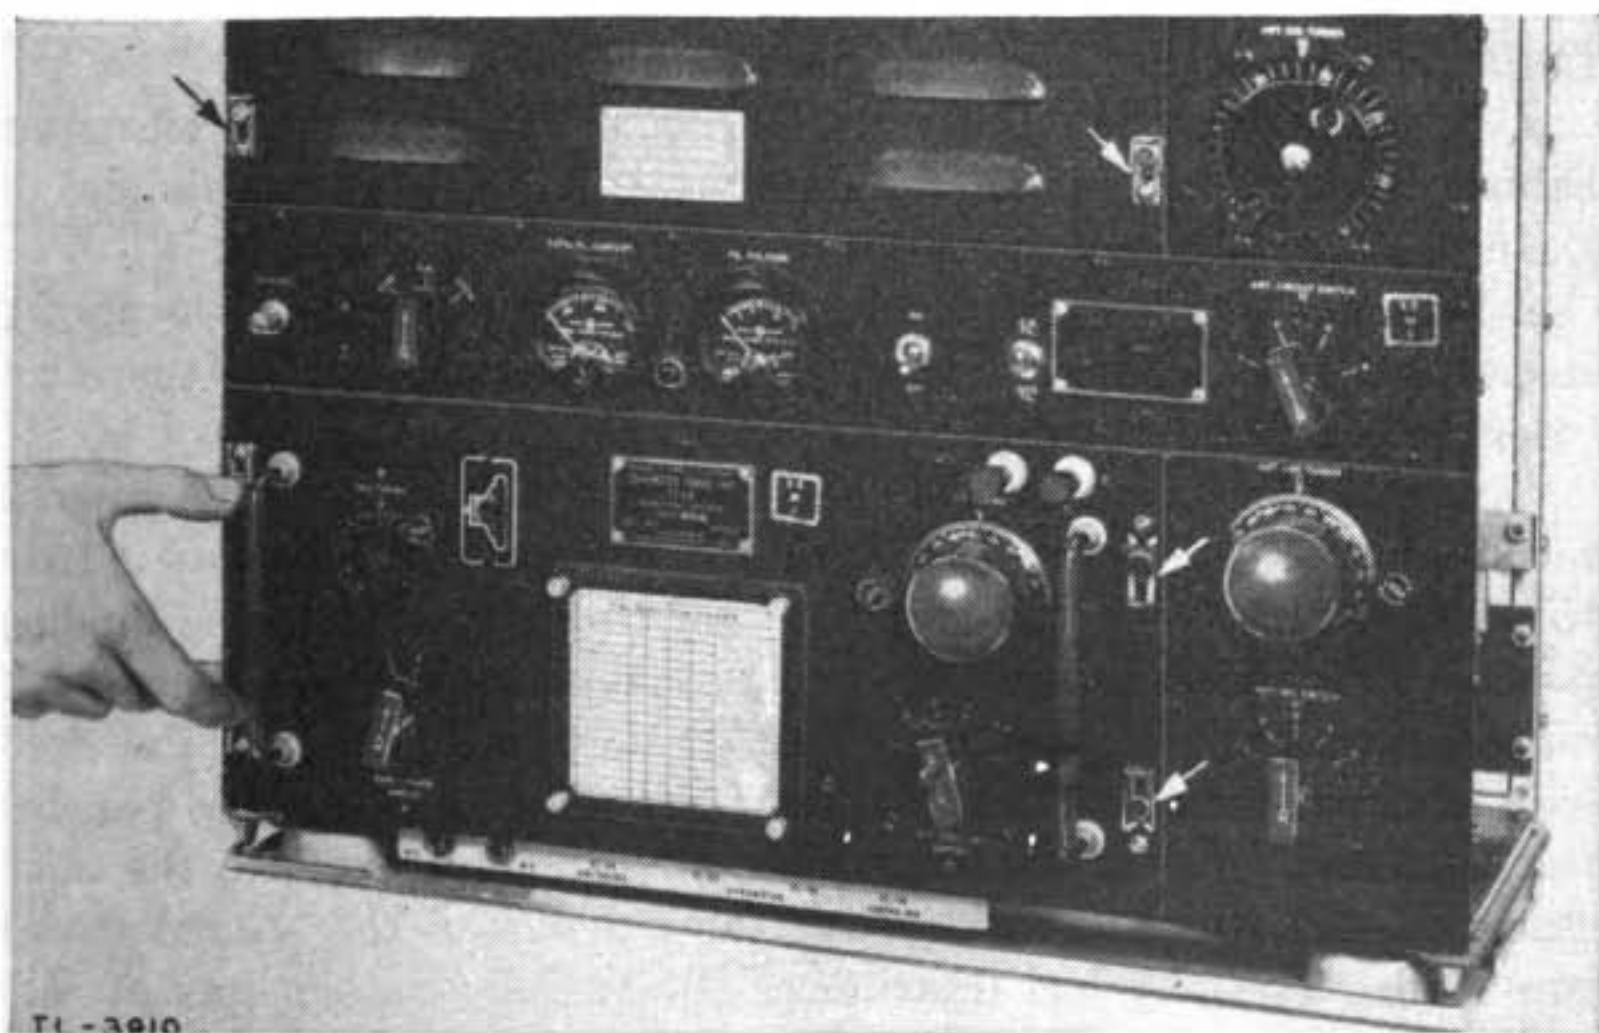
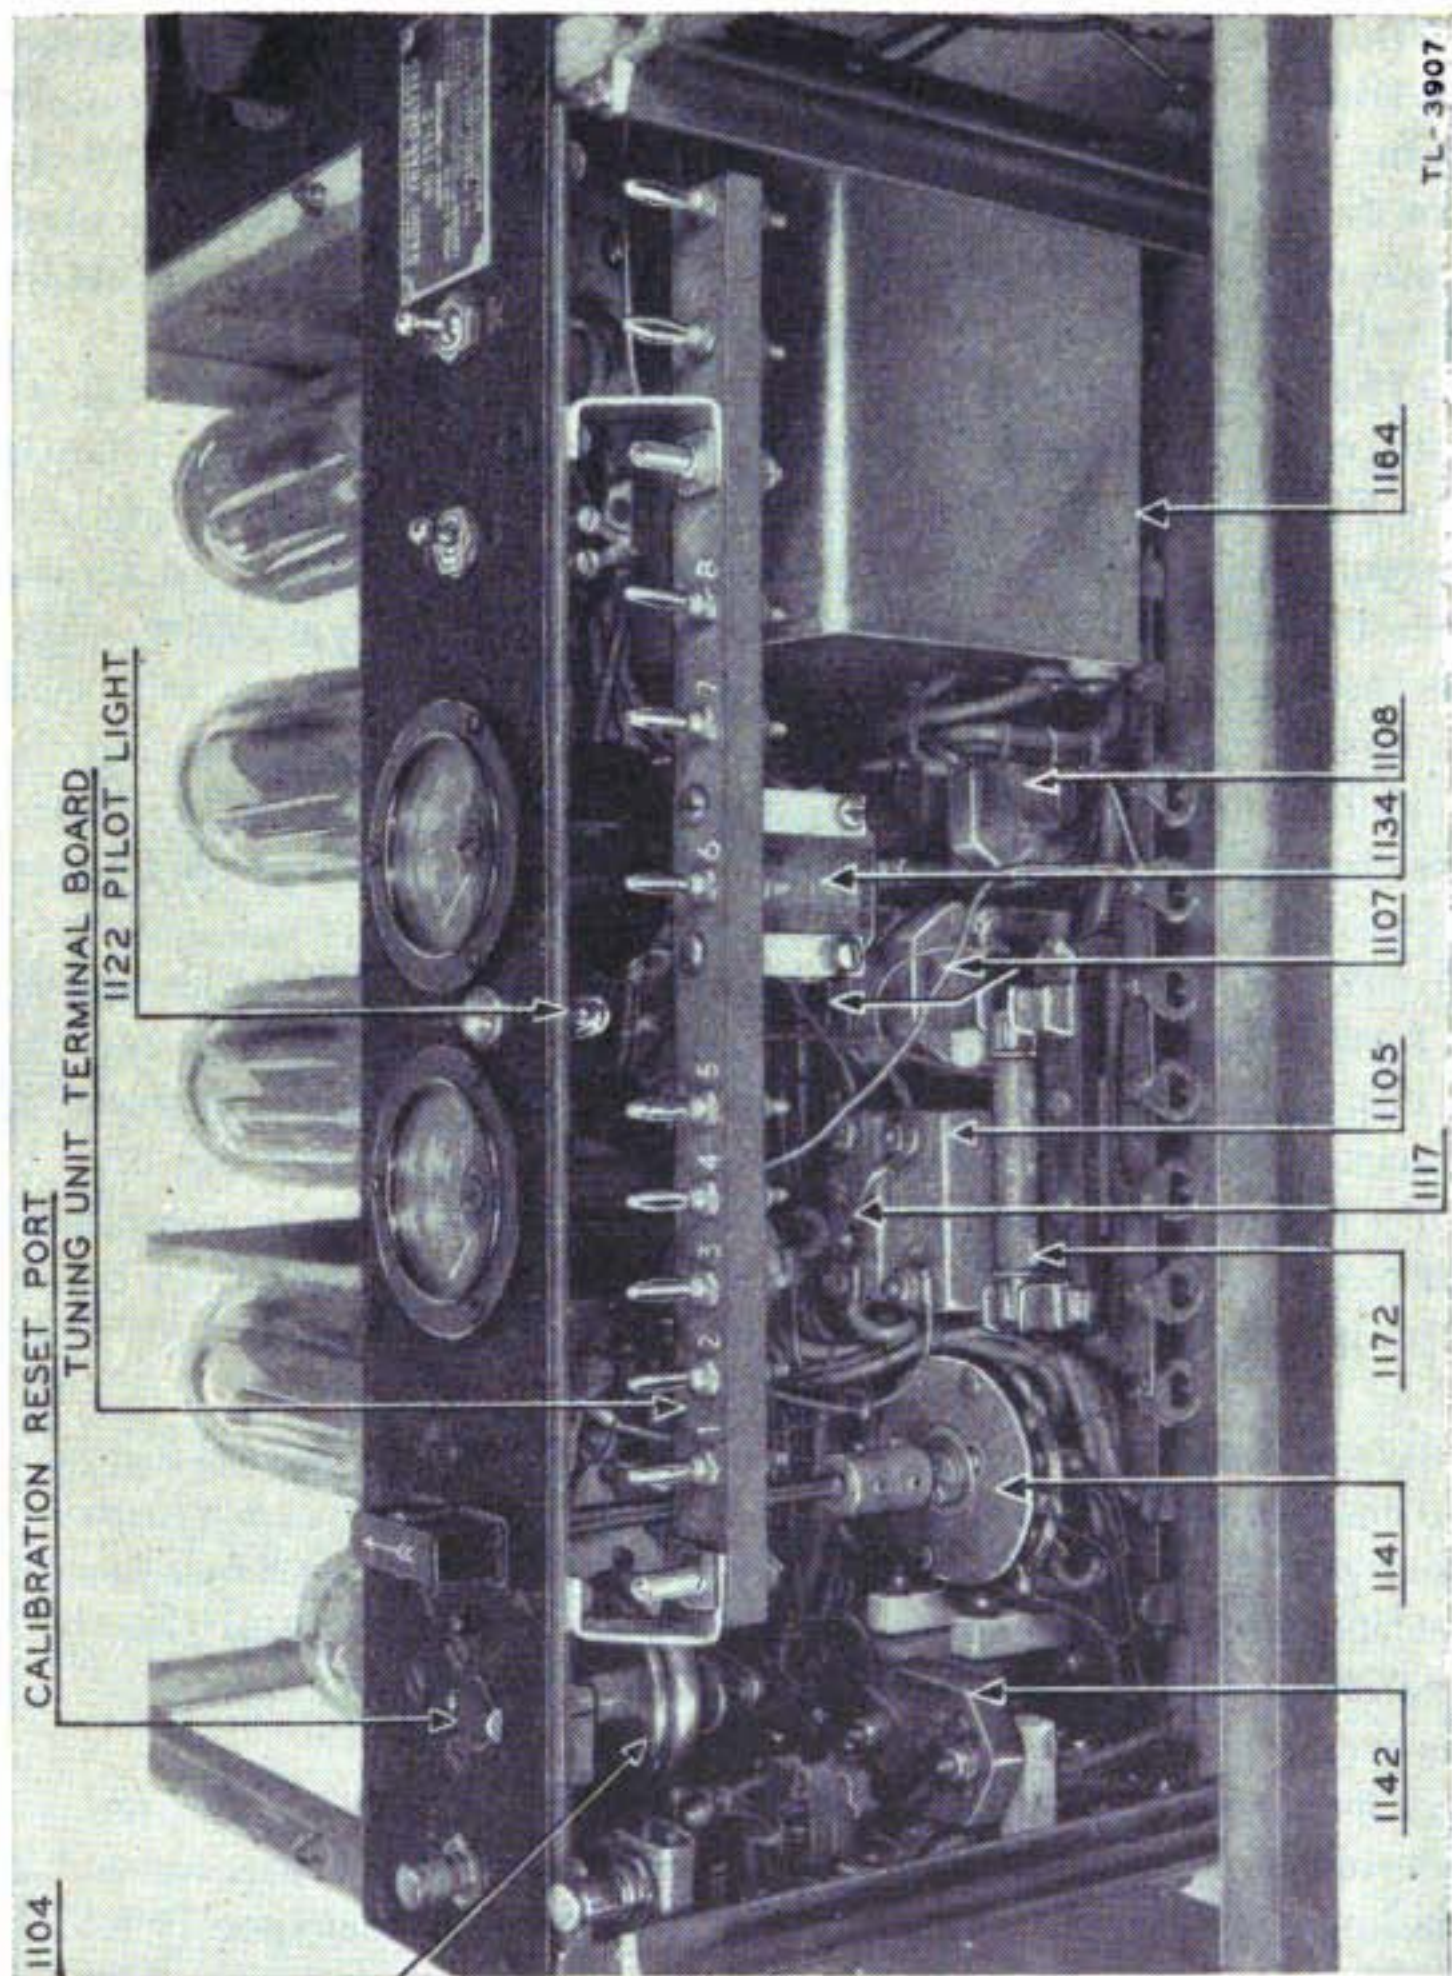

FIGURE 1.—Location and operation of snap slide catches on radio transmitter BC-191-(*)—front panel.
FIGURE 3.—Tuning unit receptacle in radio transmitter BC-191-(*) from front and below, showing pilot light and fuse holder location.
c. Below this panel is a compartment provided with metal guides. A transmitter tuning unit inserted in this compartment connects to the transmitter circuits by means of jacks and plugs mounted on insulated strips. (See fig. 3.) When inserted, it is locked in place by means of four snap slide catches. (See fig. 1.) The front panel of the tuning unit is then flush with the transmitter front panel and the tuning unit becomes an integral part of the transmitter.
a. Minor installations.—(1) All control knobs, jacks, and switches on the transmitter are identified in this manual by their actual markings; for example, the three-position switch at the left end of the narrow front panel is marked TONE C. W. VOICE above the three positions of the switch pointer. In this manual this switch is designated as the TONE C. W. VOICE switch.
(2) If necessary, insert a pilot lamp LM-27 in the socket behind the ruby reflector located between the TOTAL PL. CURRENT meter and the FIL. VOLTAGE meter just above the transmitter tuning unit compartment. (See fig. 3.) Do this by slipping the lamp up behind the panel before inserting the tuning unit in the compartment. The bulb is inserted and turned to lock it in place.
(3) Remove the cover from the tube compartment by releasing the slide catch fasteners as shown in figure 1. Insert the five tubes in the sockets marked with the corresponding Signal Corps VT type numbers.
(4) Inspect the fuses located in the transmitter. There should be three fuses FU-12-A, one in use and two spare. The one in use fits in the clip located above the tuning unit receptacle and behind the pilot lamp socket at the rear of the transmitter frame. (See fig. 3.) It can only be inserted when there is no tuning unit in the receptacle. The two spares are mounted on clips on the bottom shelf just below the tuning unit receptacle and near the front of the transmitter. (See fig. 22.)